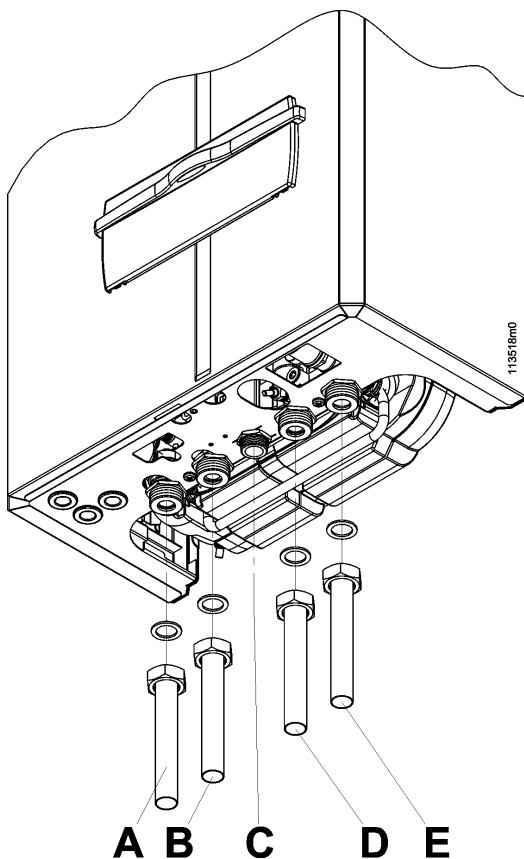

Figure 11 - Fittings supplied with the boiler
The boiler comes with the fittings shown in figure 11.
☞ Figure 11 illustrates the position of the supply and return pipes.
☞ Figure 11 illustrates the positioning of the domestic hot and cold water pipes.
☞ 160C and 160OC boilers can be used as heating only boilers. No connection is needed to the domestic pipes "B" and "D" of figure 11.
- ☞ Before installation a thorough internal cleaning of the gas supply line should be performed. Figure 11 shows the positioning of the gas connection on the heater.